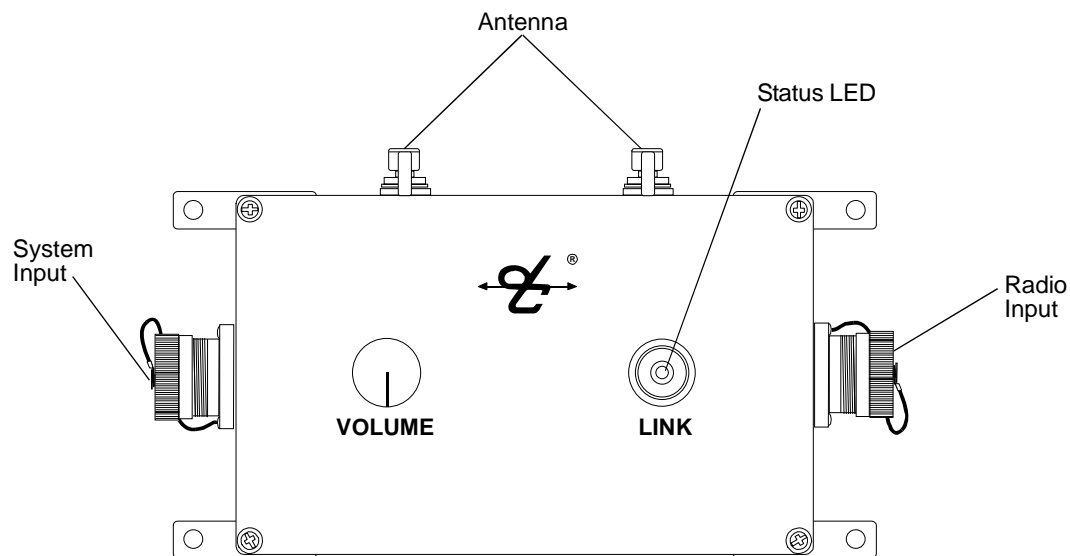

Figure 1: Overview of Gateway
Audio levels can vary between intercoms, mainly due to the system level setting on the wired intercom. To compensate for this, the U9922-G38(EU) has the ability to adjust its receive level from the intercom using the **Volume** knob (see **Figure 1**). Turning this knob will increase or decrease the audio level coming from the wired intercom into the gateway. Perform this adjustment to obtain optimum performance.